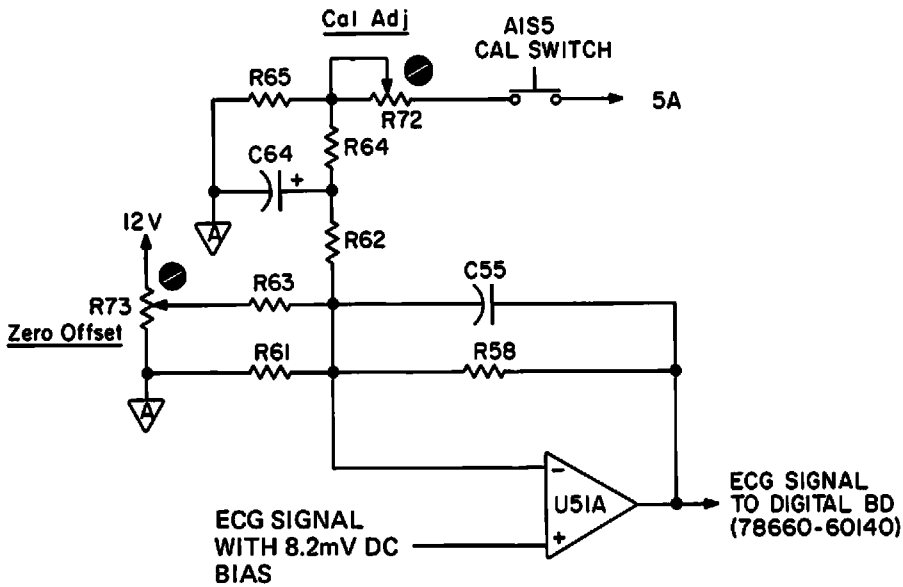

Figure 2-11A
2.3.2.9 Fixed Gain Stage (Fig.2-11A)